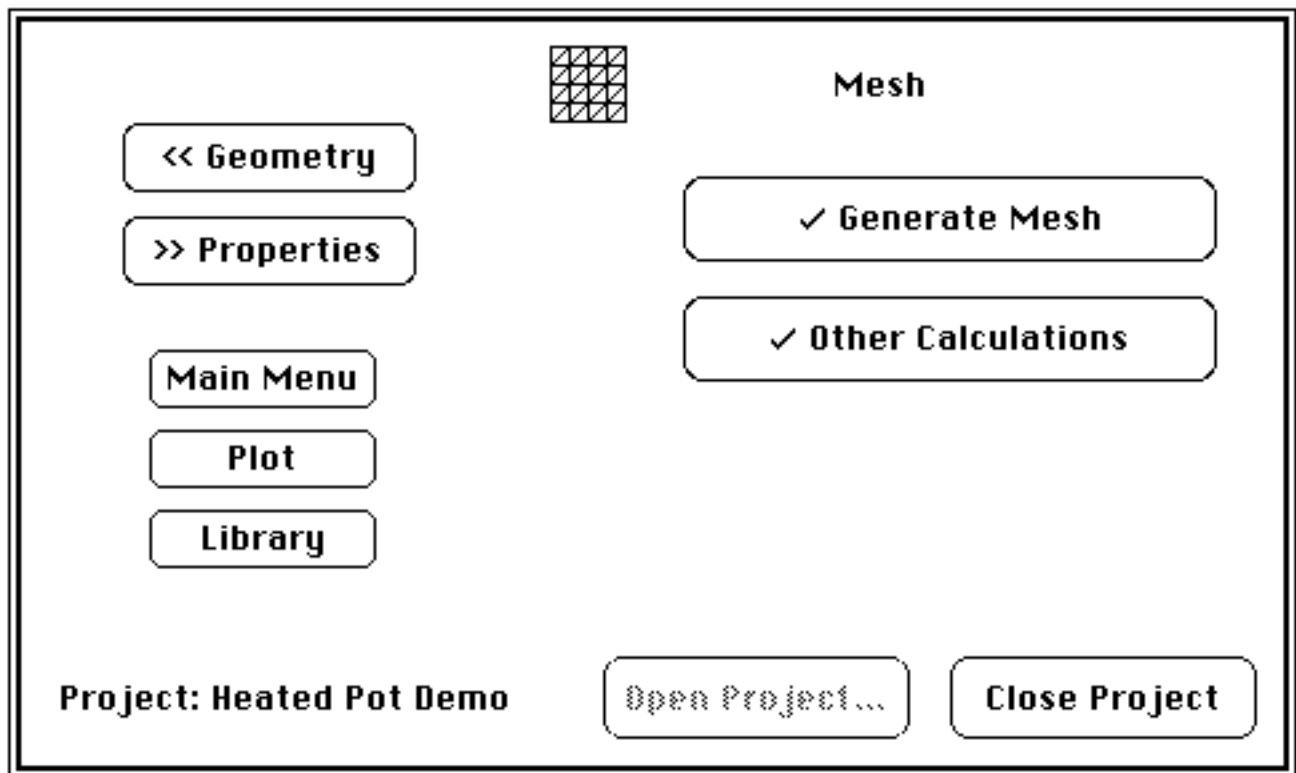

Fig 3.26 Mesh module
- Click Generate Mesh (Fig 3.26).
Click Other Calculations (Fig 3.26) to access node renumbering and calculations to speed subsequent graphics calculations.